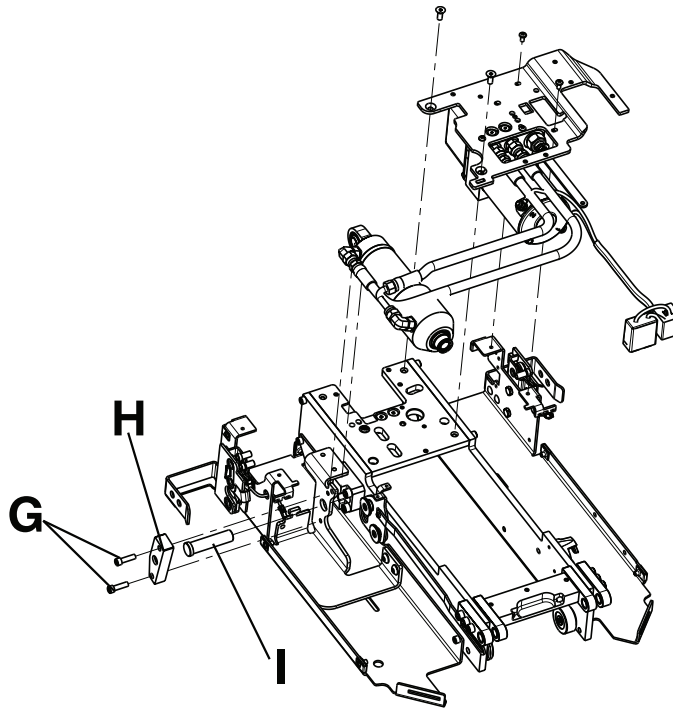

Figure 24 – Pin and hydraulic cylinder removal
11. Using a 3/16" hex wrench, remove the two screws (G) that secure the pin bracket (H) to the trolley (Figure 24). Save the screws.
12. Remove the pin (I) and lift the hydraulic cylinder out (Figure 24). Save the pin.